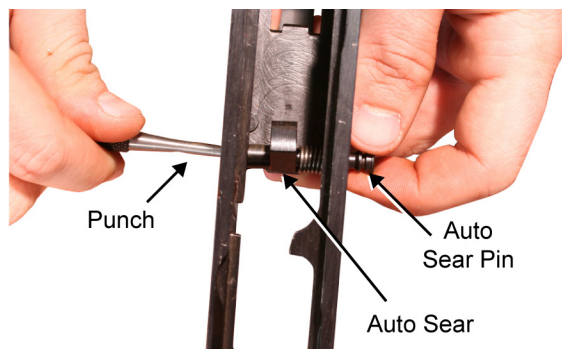

Figure 34. Installing the Auto Sear Retaining Pin.
- c. Insert the auto sear retaining pin from the left side of the receiver, ensuring to thread the pin through the auto sear spring and the auto sear. Refer to Figure 34.